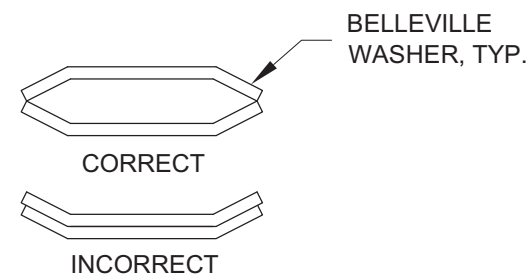

FIGURE 3: BELLEVILLE WASHER ORIENTATION (NOT TO SCALE)
Step 3: Grease the SF 4048-16 Bronze Bushings with Aeroshell #5, (Blue) Marine/Boat Trailer Grease or equivalent. Slide the Nose Fork Assembly and the two U-611 Washers (The U-611 washers are "cupped", and to function properly, the outside perimeter of both washers must be in contact with each other when installed, as per Figure 3) onto the WD-1201 Nose Gear Assembly. Finally, thread on the MS21025-20 Nut.